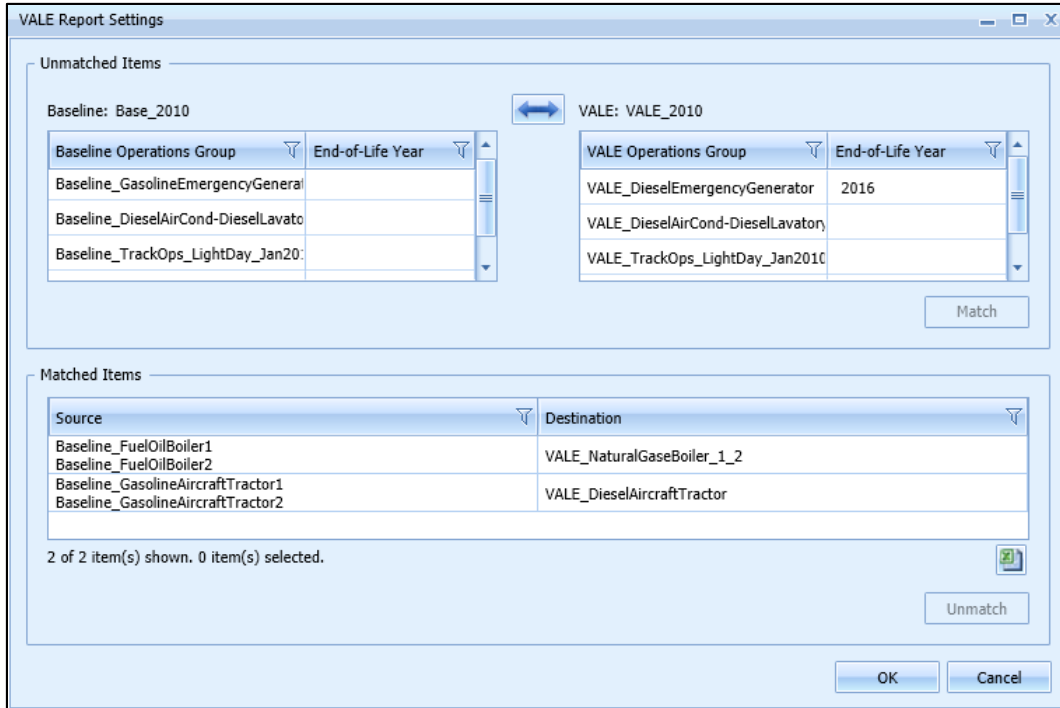

Figure 5-52 Sample VALE Report Settings Dialog
2. From the *View Reports* ribbon group, click *VALE Report* to open the *VALE Report Settings* dialog (Figure 5-52).